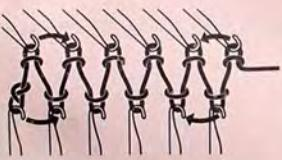

Fig. 72
- a) Decreasing 2 stitches at right or left. No matter at which side the lock is, with decker needle of red or green tool lift edge stitch off needle and transfer it to the next needle of the same bed, fig. 72. Put empty needles and sinkers in neutral-position.